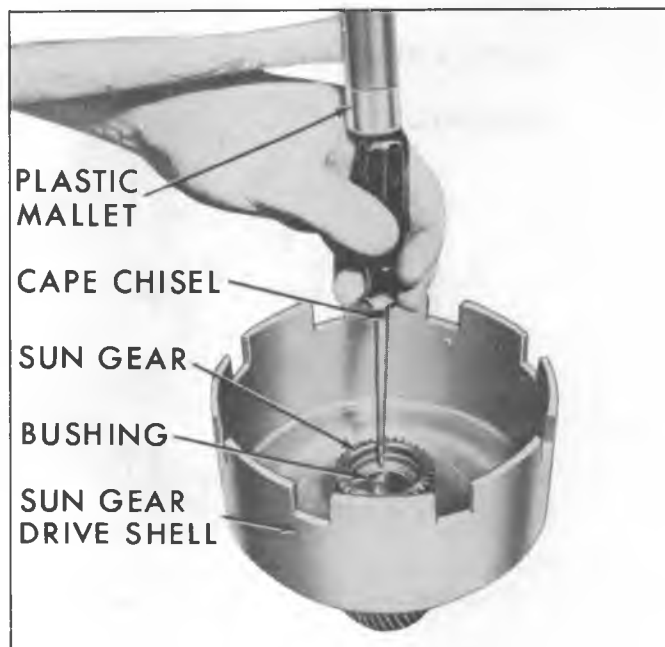

Fig. 102M--Removing Sun Gear Bushings
1. With sun gear properly supported, remove sun gear bushings (fig. 102M).